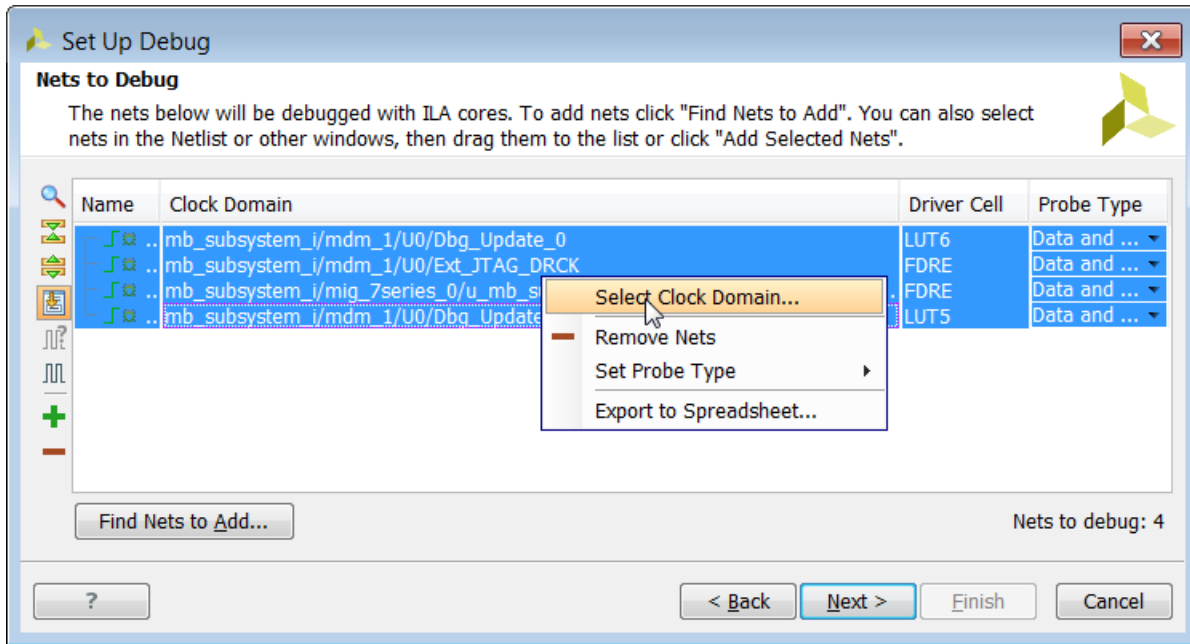

**Figure 128: Add Nets Connected to Cross-Trigger Pins**
6. Select the following nets, as shown in Figure 128: